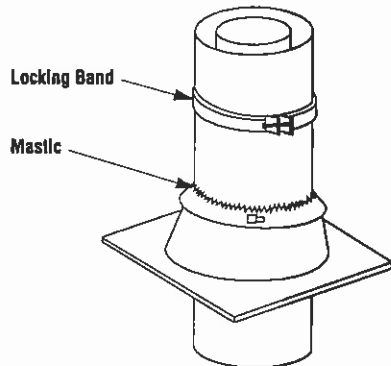

Figure 29
Step 8. The standard FireCRAFT FTF10 roof flashing assemblies include a storm collar. Slide the storm collar over outer chimney, rest on flashing spacers and align with top surface of flashing. Insert tab in slot, pull tight and bend tab back over slot. Seal storm collar to outer chimney with roof caulking or mastic around entire circumference of pipe. Also add extra roof caulking to the tab/slot area to seal completely against water penetration (Figure 29). Check all joints very carefully to ensure no water intrusion can take place.
Step 9. FireCRAFT locking bands, Model FLB, may be required if the chimney extends too high above the roof flashing. As a general rule, if the chimney extends more than 6' above the roof flashing, the use of locking bands is advisable to strengthen the chimney assembly. Align the locking band at the chimney joint. Locking bands wrap around pipe joints equally covering the joints of both pipe sections. Use the nut provided and TIGHTEN snugly. Do not over-tighten as this might damage the chimney section (refer to Figure 29).